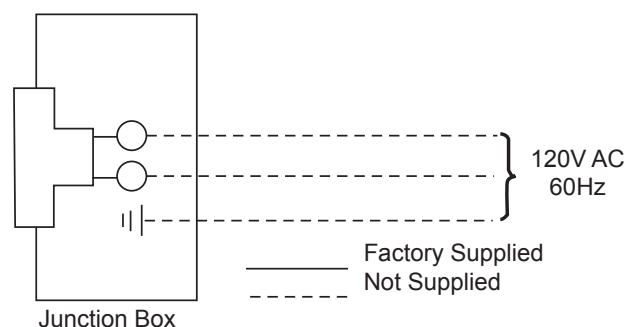

**Figure 26 -
3. The junction box cover has a factory installed “romex” style strain relief connector. After connecting the wires, route the wire leads through this connector. Refer to the wiring diagram in *Figure 26*.